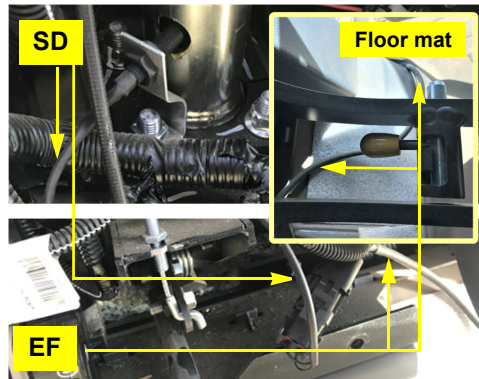

Figure 2e: SWS harness cable to switch cable
- f. Route SWS cable **EF** down the right side of the cab, under the floor mat and connect it to the steering wheel switch/cable **SD** at the steering column (Figure 2e).